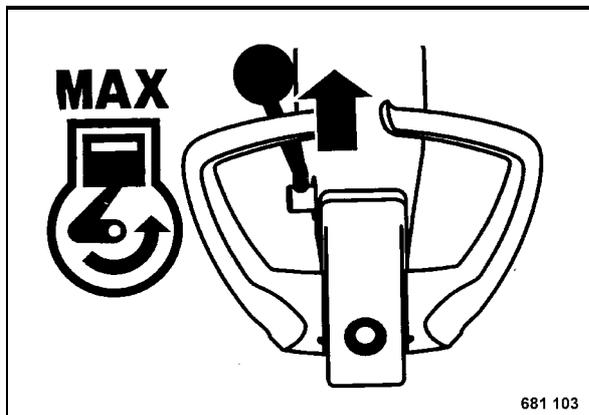

Fig. 13
- Set the throttle lever (Fig. 13) to position "MAX" (full speed).